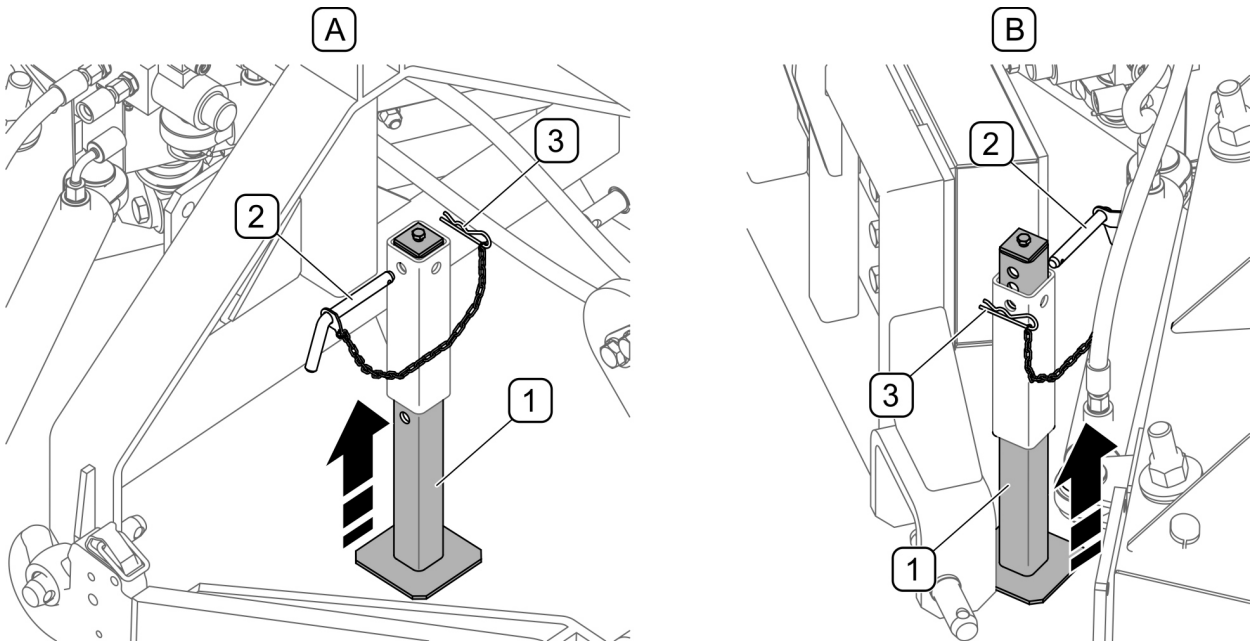

FIGURE 4.4 Parking stand
- lower arm and turn frame downwards (A) so that mounting points on quick mounting frame are below the mounting points of the plough;
- lift the arm (B) so that the upper mounting points are in the plough hooks;
- controlling the loader frame tilt it back (C), causing the locking of the quick mounting mechanism;
- raise the parking stand (FIGURE 4.4)
(1) - support; (2) - pin; (3) - locking linchpin
During the operation, after mounting the plough on the carrying vehicle insert parking stand (1) in the guide upwards (FIGURE 4.4) and secure its position using a pin (2) and secure with spring linchpin (3) - does not apply to ploughs with the EURO-SMS linkage.